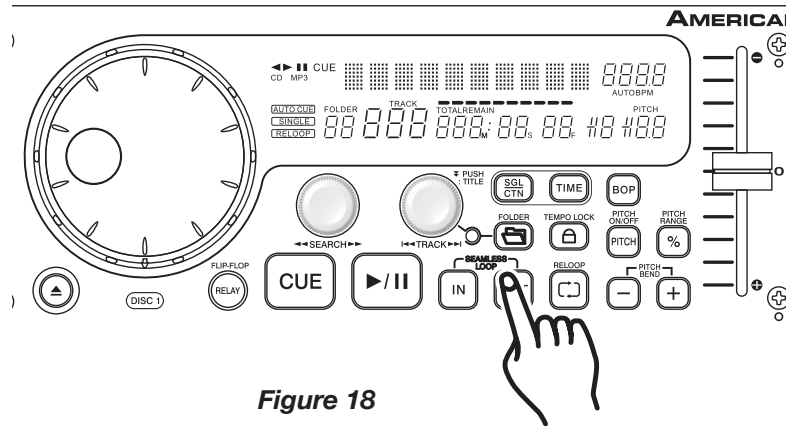

Figure 18
EXITING A LOOP - To exit a SEAMLESS LOOP, press the **OUT BUTTON (16)**. The **IN BUTTON (17)** and **OUT BUTTON (16)** L.E.D.s will remain on, but will stop flashing. Music playback will resume normal play (Figure 18). The **IN BUTTON (17)** and **OUT BUTTON (16)** L.E.D.s will remain on to remind you that a loop is stored in memory.